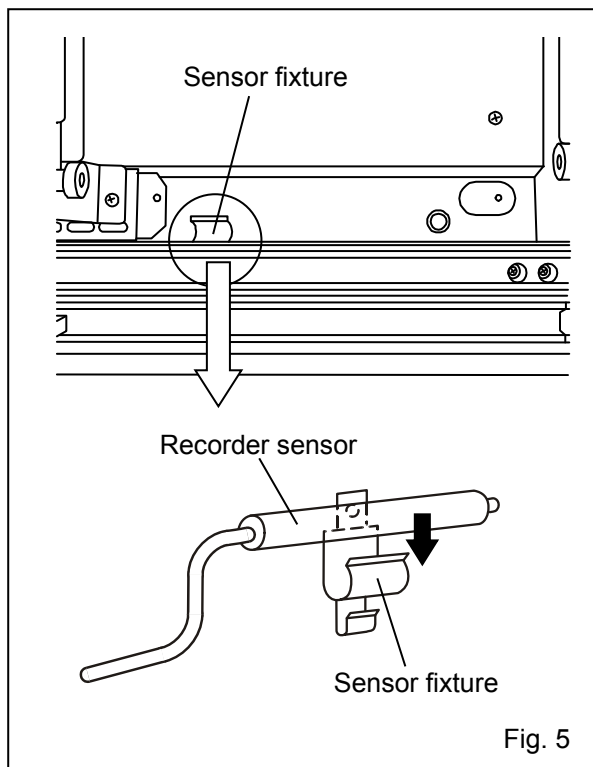

Fig. 5
7. Fix the recorder sensor to the sensor fixture. [Fig. 5]